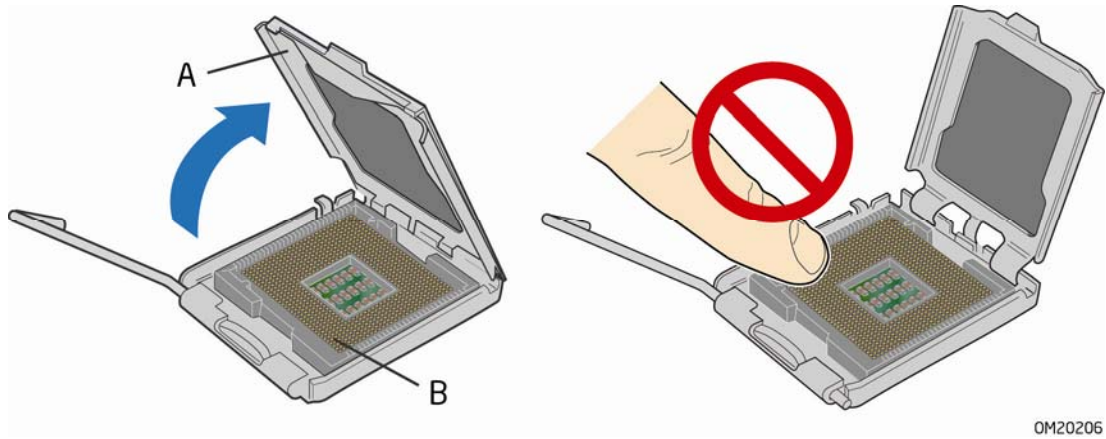

Figure 8. Lift the Load Plate
3. Lift the load plate (Figure 8, A). Do not touch the socket contacts (Figure 8, B).